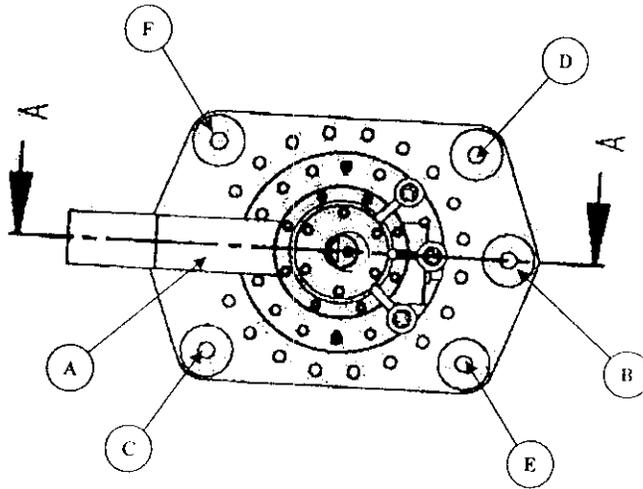

Figure 1.32.2 The specified sequence for tightening the Belleville washer assemblies.
- 1.29.2 Tighten the 6 loading nuts finger-tight. With adjustable parallels, measure and record the gap 'y' indicated in Figure 1.31a between Item 5 (Belleville washer holder upper half) and the power lead top flange at the 6 locations specified in Figure 1.32.2. Units are mm.
- 1.29.4 Using the sequence A through F in Figure 1.32.2, sequentially tighten the loading nuts ¼ turn until the total compression is 1.8 mm at each of the six locations. As each loading nut is tightened ¼ turn, check off the appropriate line.